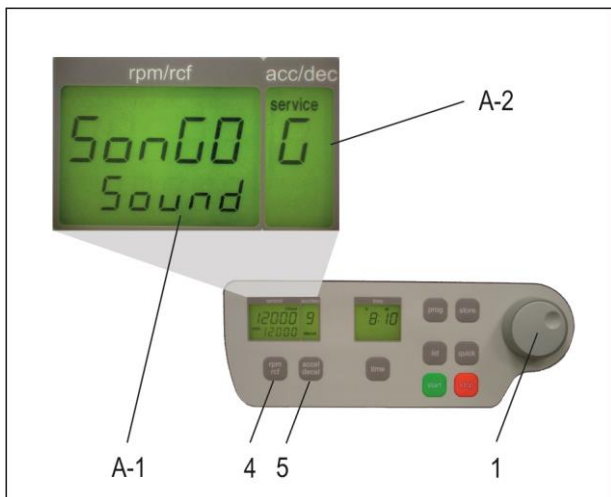

Figure 6
Proceed as illustrated, under point 1.8.1, to enter this program mode, press the key, "accel/decel" (5). In the display, "accel/decel" (A-2) flashes the word, "service". Select the letter, "G" with the adjustable knob (1). As a result, appearing in the display, "rpm/rcf" (A-1), the word " SonGo/Sound". After pressing the key „rpm/rcf“ (4), select a song with the adjusting knob (1), (see Figure 6).